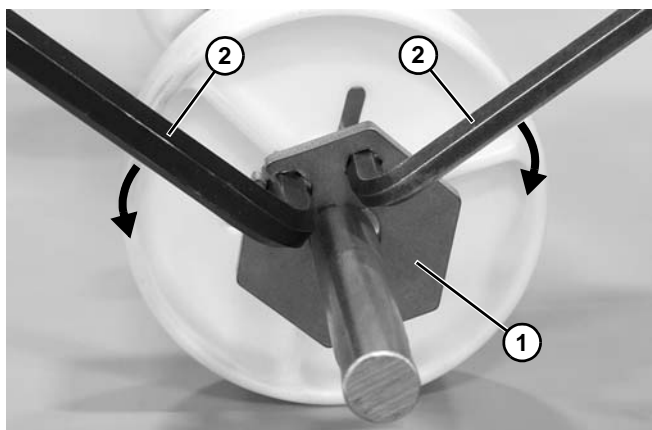

Figure 89
- c. To lock the retainer plate (Figure 89, item 1) in place, move the wrenches (Figure 89, item 2) away from each other.